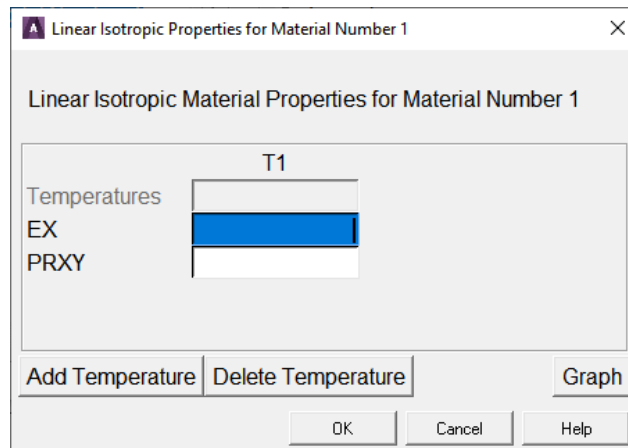

Figure 1.7: Linear isotropic properties for material number 1
In this window, several types of material models can be selected. For this exercise we can apply constant isotropic elastic material behaviour (independent of the loading direction). Therefore, we select , , , . We now obtain a window as given in Figure 1.7.
The material with reference number 1 can be defined here. At least the Young's modulus (EX) and Poisson's ratio (PRXY) must be filled in. Note that the applied units must match the units that are used to describe the complete structure (m, mm, etc.). Click on **OK** and close the window as presented in Figure 1.7 to return to the *ANSYS Main Menu*. Now, sufficient data is prepared and stored in order to start the creation of the model.